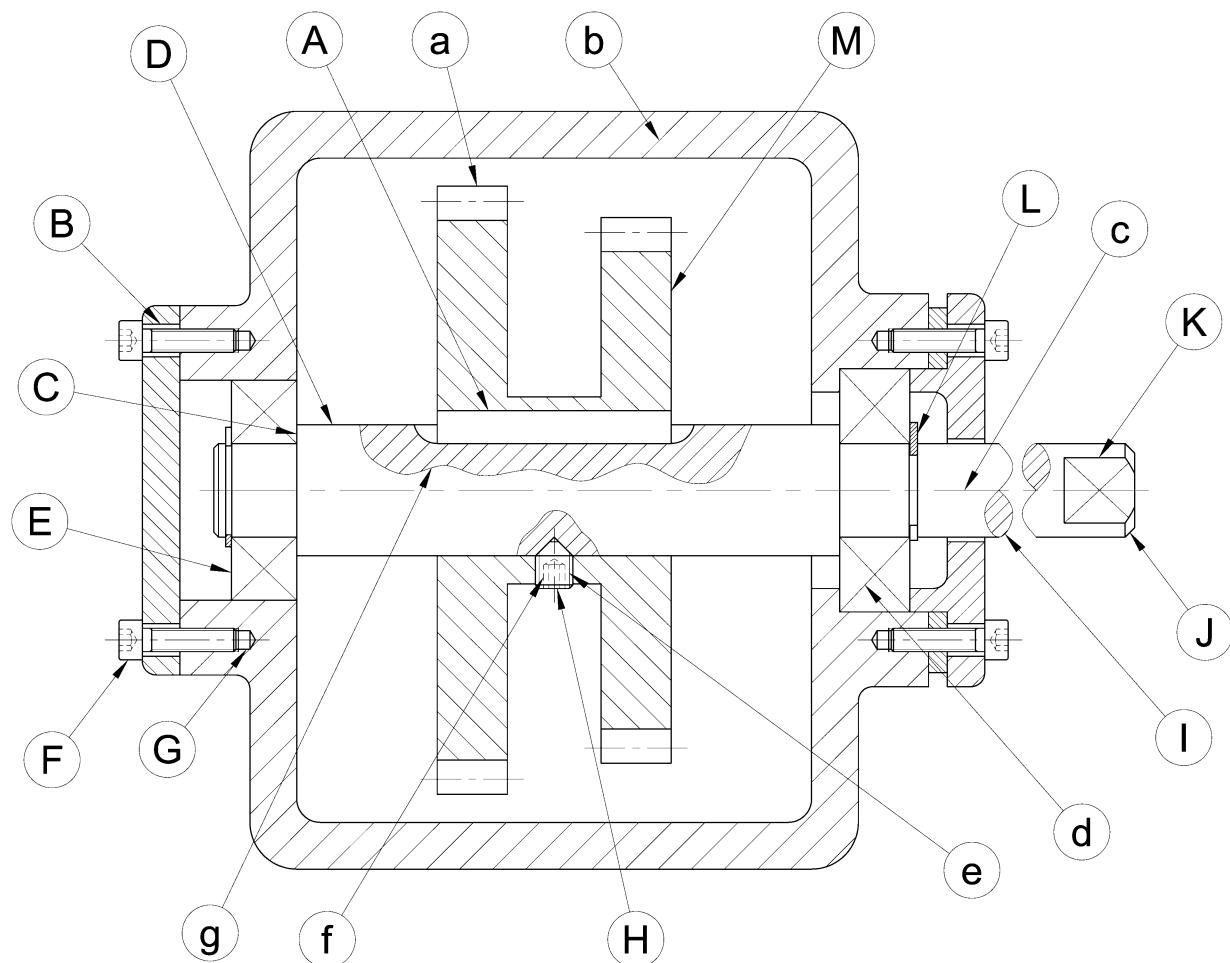

Figure Q4. Sectional View of a Gear Box
4. Figure Q4 shows the sectional view of a gearbox.